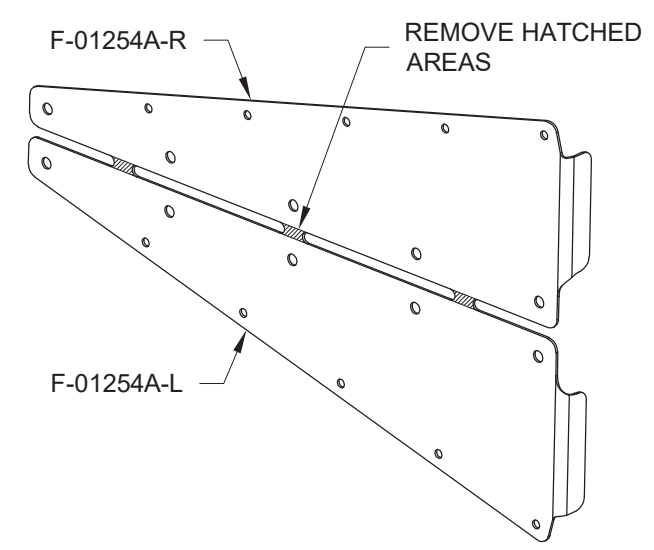

FIGURE 5: SEPARATING THE F-01254A
Step 11: Separate the F-01254A into left and right parts by removing the hatched areas shown in Figure 5.